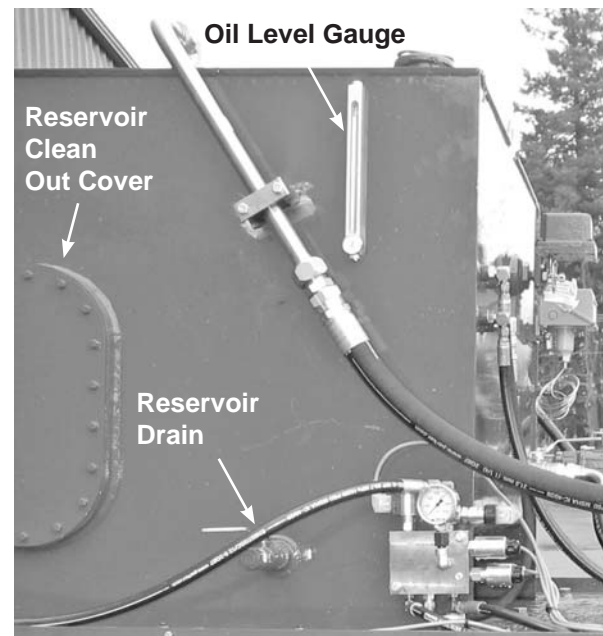

Figure 12 - Reservoir Drain
**Check oil level** Check the oil level gauge, which should be 1" to 2" below the HIGH mark with all 3 cylinders retracted and 2" to 3" below the High mark with all three cylinders extended (see Figure 12 and Figure 36 page 16).